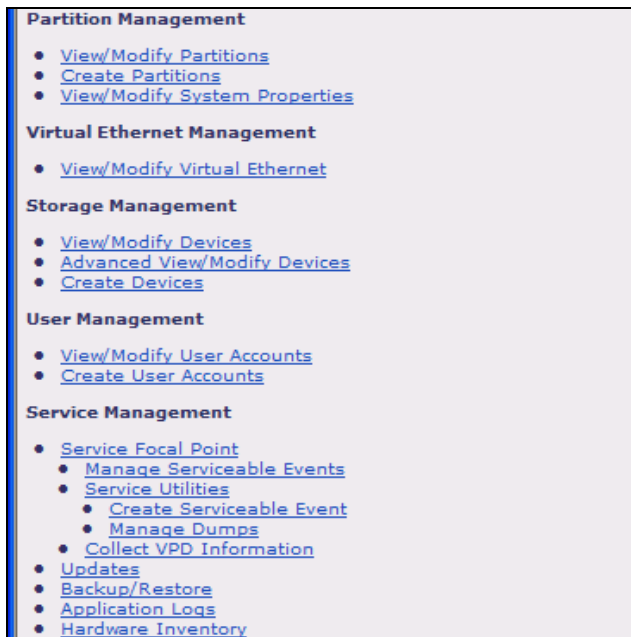

Figure 37. Navigating the left IVM panel to access various system-management functions
9. Notice that the left panel of the IVM acts as a navigation tree (see Figure 37), enabling you to view, modify and create partitions, Ethernets, devices and user accounts. You can also access service-related functions, such as backups, restores, application logs and other facilities.